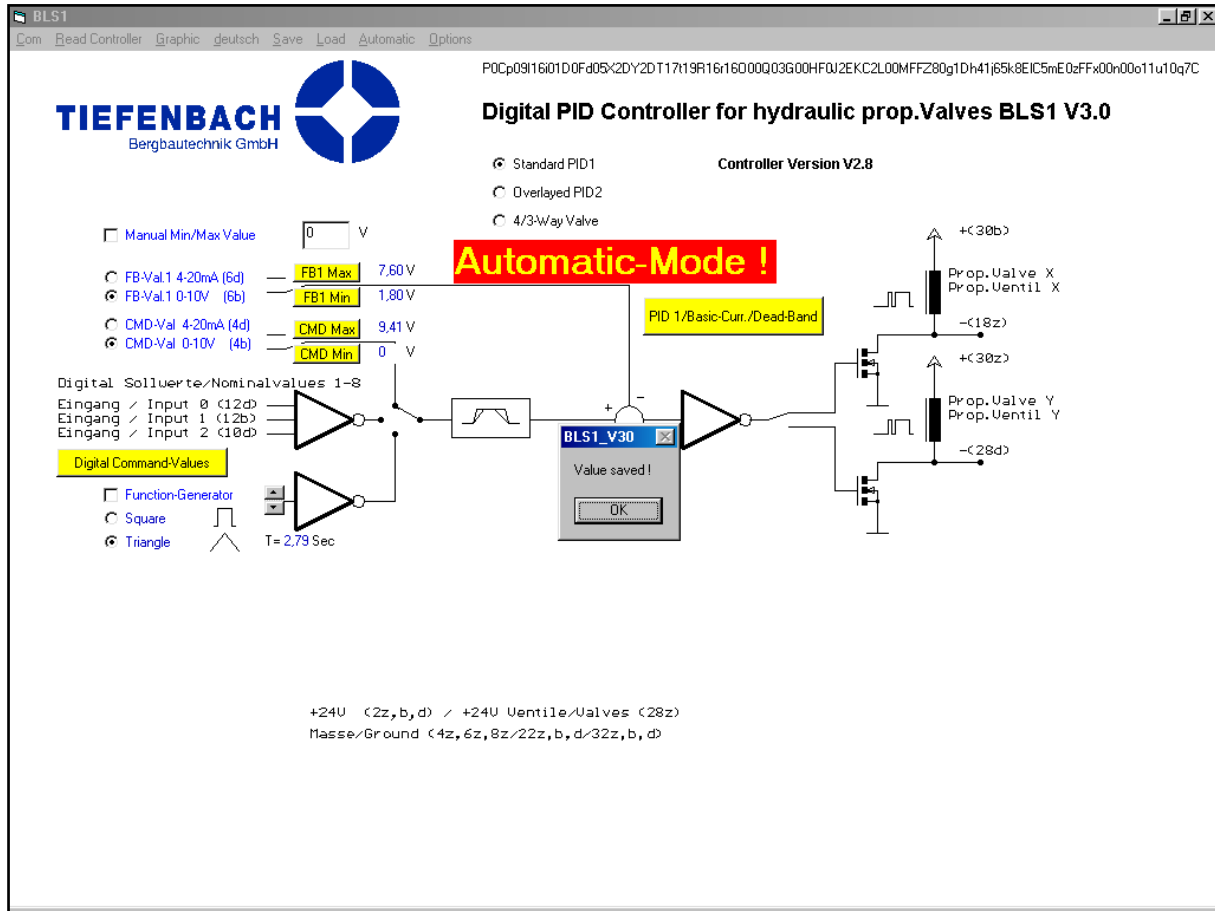

Fig. 11
- You will see the message **Value Saved (Fig. 11)**.